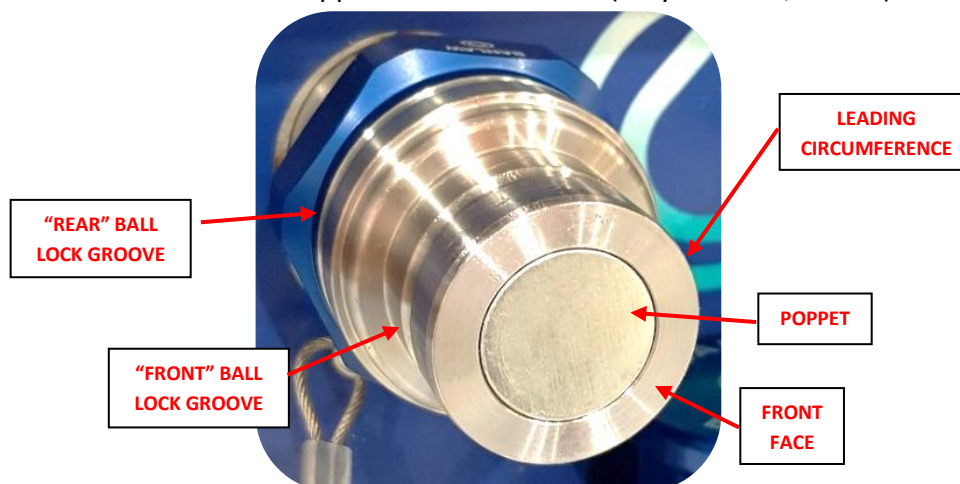
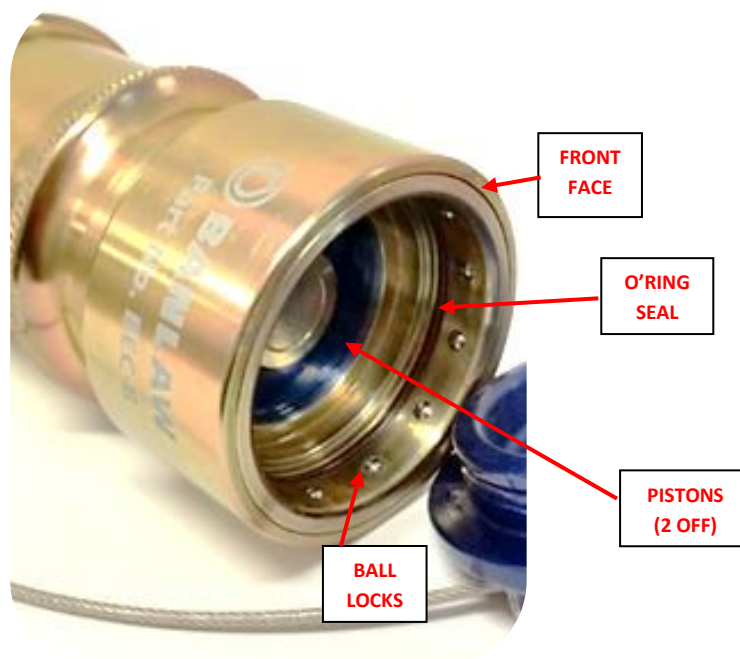

Figure 11 - Critical Areas of Damage on BPL Receivers
Figure 13 - Critical Areas of Damage on the Evacuation Coupling
- **Closely** inspect the front area of the BPL **Receiver** (Figure 11) and Evacuation Coupling (Figure 13) for excessive wear or damage;
Leakage from between Evacuation Coupling and Receiver when connected	<ul style="list-style-type: none"> <li>• Faulty internal seal – replace Evacuation Coupling;                             <ul style="list-style-type: none"> <li>○ The O’ring seal within the front of the Evacuation Coupling – refer Figure 13 and section 6.1 – is especially vulnerable to damage and may require regular replacement;                                     <ul style="list-style-type: none"> <li>▪ BS033 Viton (or NBR) for BEC-B.</li> <li>▪ BS033 Fluorosilicone for BEC-B-CT.</li> </ul> </li> </ul> </li> <li>• Contamination causing poor sealing. Attempt to rectify by flushing the Evacuation Coupling with a (compatible) clean liquid.</li> <li>• Couplings improperly connected – refer section 5.</li> <li>• Damage to a sealing face within the Evacuation Coupling or on the Receiver. Identify, repair damage, or replace damaged coupling.</li> </ul>